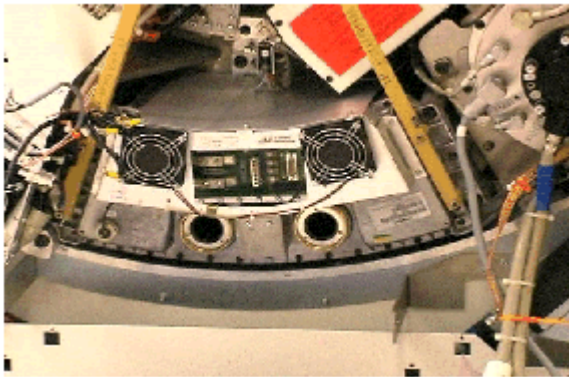

Fig. 4: Attaching Bracket
- Attach the lifting brackets provided with the HV tank. The cut-outs go to the outside to allow access to the tank mounting bolts (item 1). See fig. 4